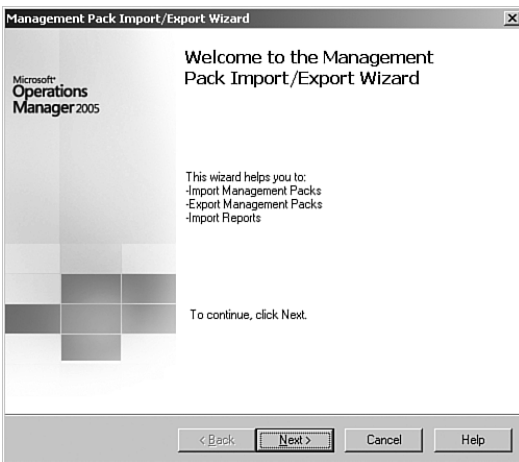

FIGURE 12.20 Welcome to the Management Pack Import/Export Wizard.
1. Right-click on the Management Pack icon on the Navigation pane in the Administrator console and select Import/Export Management Pack to launch the Import/Export Management Pack Wizard, shown in Figure 12.20.